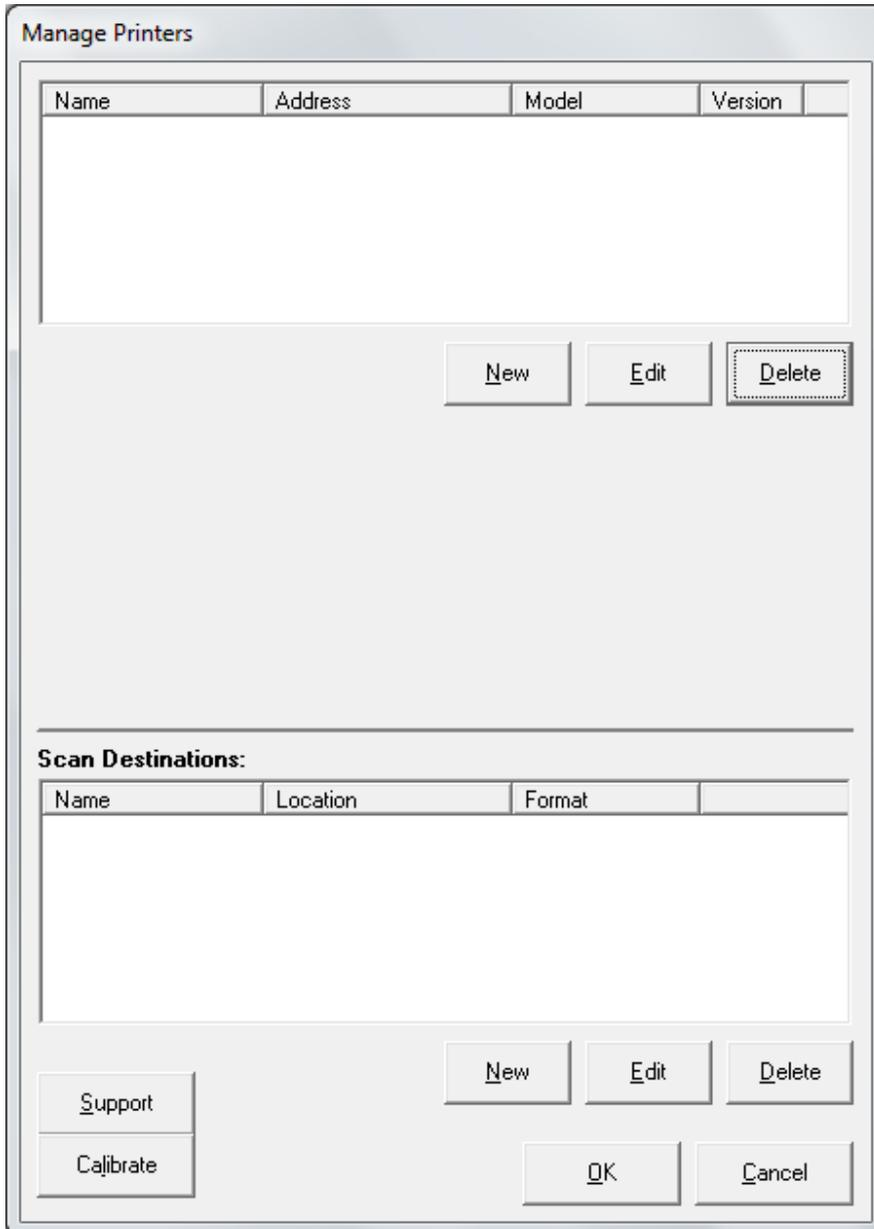

Fig 3-1
This will first display the Scanner Settings window. Touch [OK] to close the Settings window and open the Manage Printers interface (Fig 3-1).
- From the menu bar of the Accxes Copy interface, select Options > Manage Printers to open the Manage Printers interface (Fig 3-1).